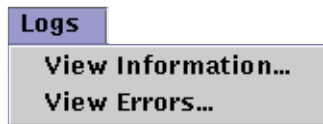

FIGURE 3-10 Logs Menu
1. Select the **Logs** button to access the **Logs** menu (FIGURE 3-10).